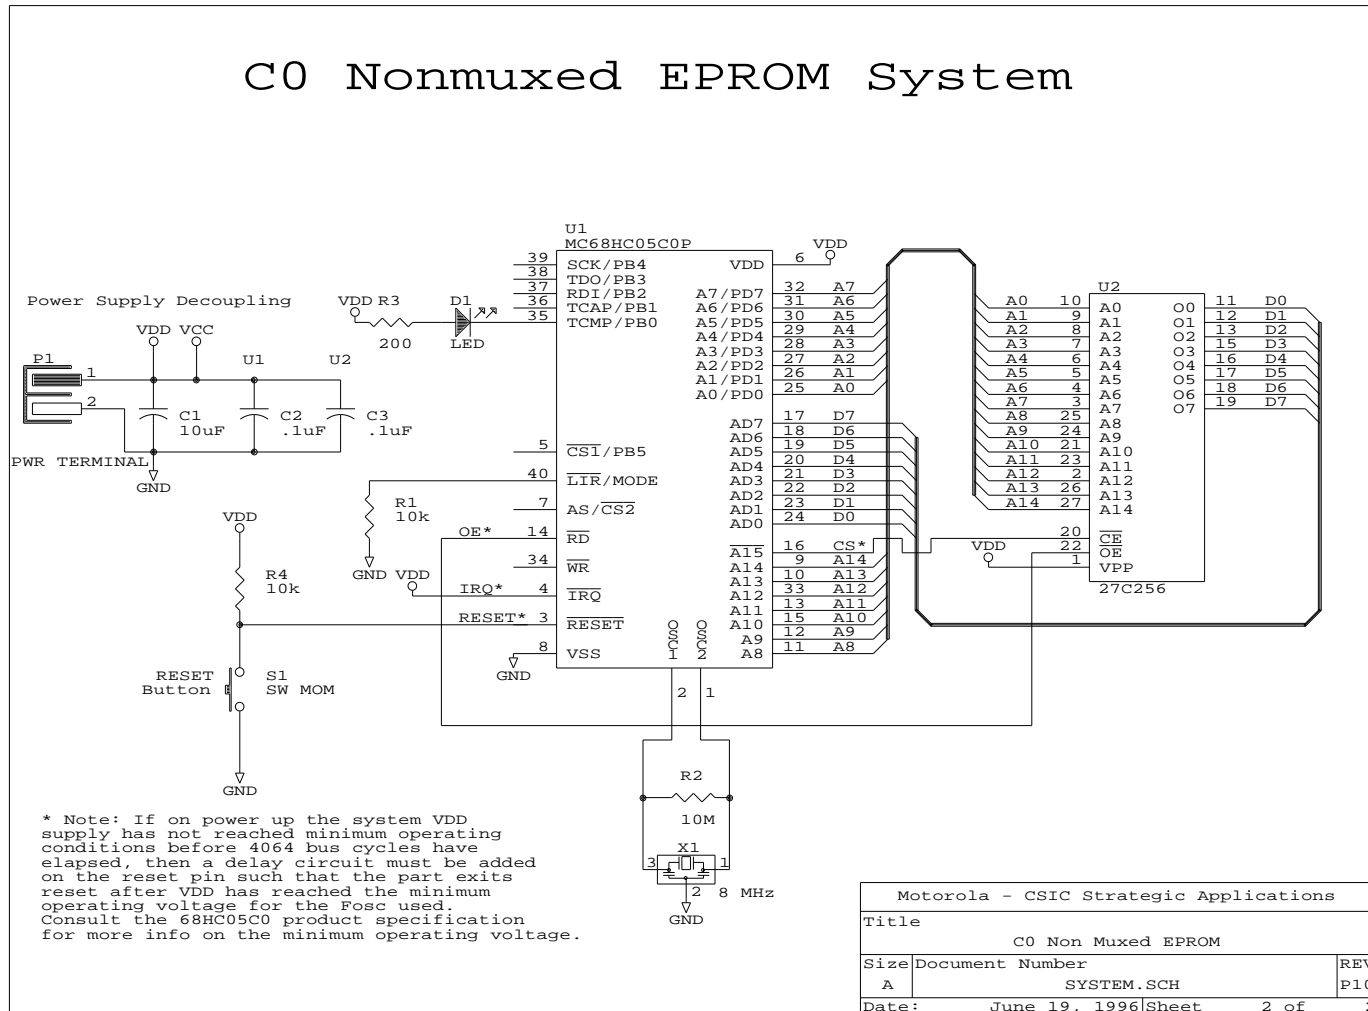

Figure 2. MC68HC05C0 Nonmuxed Mode Schematic
Due to the carefully chosen chip selects of the MC68HC05C0, glue logic is not required to interface with many common peripherals. The schematic in Figure 2 shows a minimum system with 32 Kbytes of EPROM memory not using glue logic.
**Figure 2** demonstrates the use of a 27C256 32K x 8 EPROM as the program memory in a minimum system. Nonmuxed mode is shown. This mode requires only the MC68HC05C0 and the 27C256, a 2-chip solution.